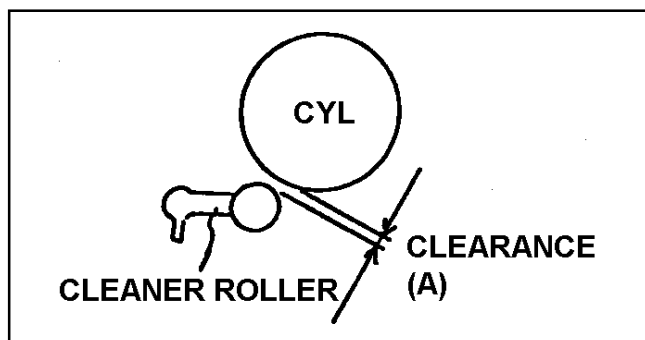

Figure 5-20-4
1. Observe the clearance (A) between Cleaner Roller and cylinder Unit as shown in Figure 5-20-4. And make sure that it is within 1.0 to 1.2mm.